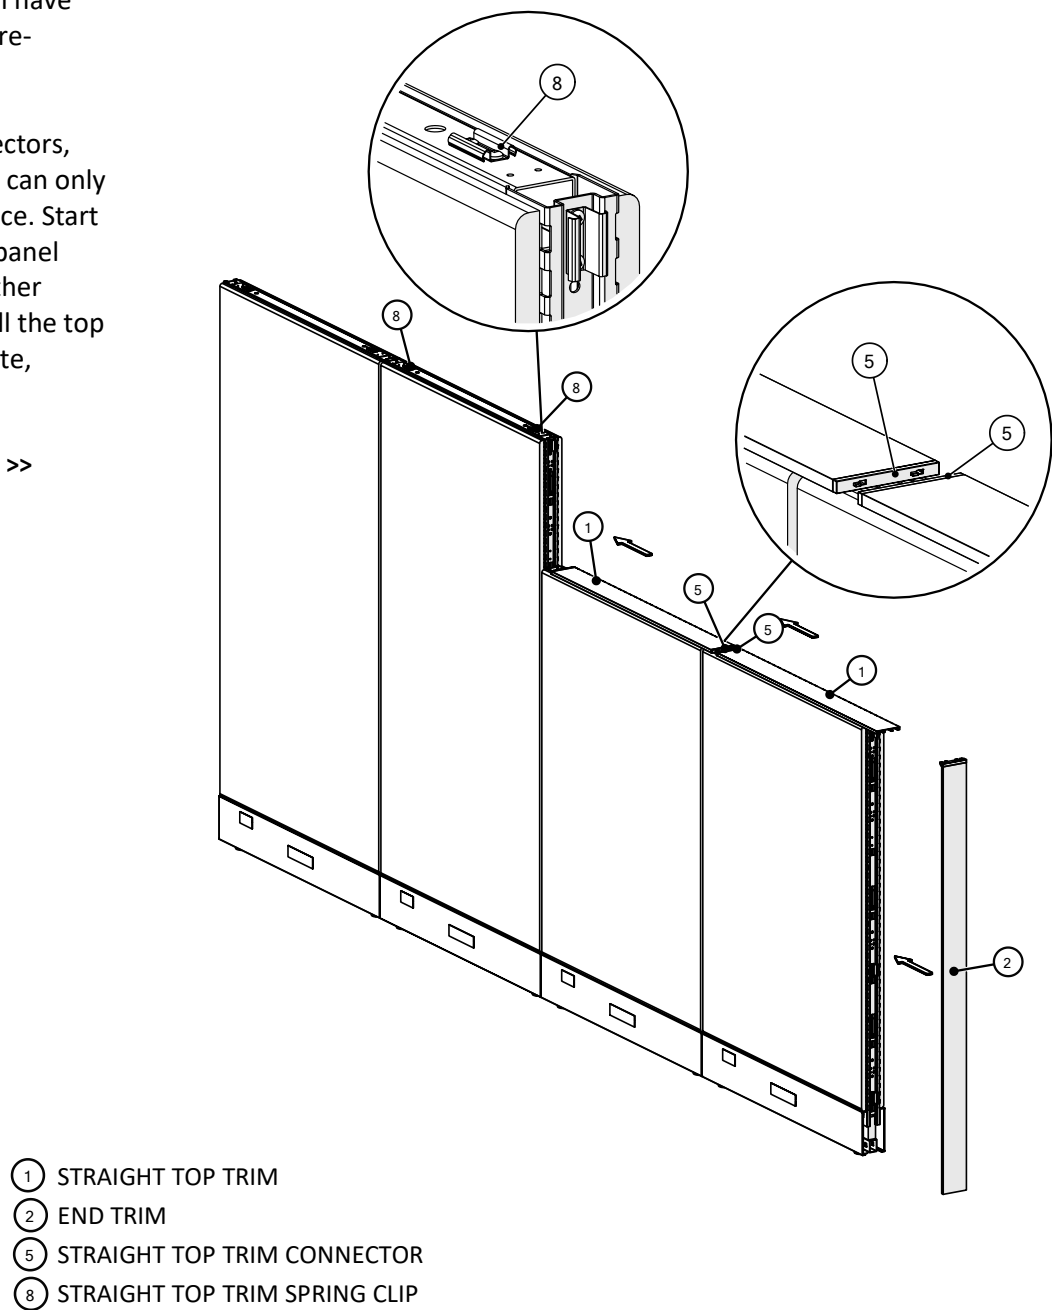

Figure 4
4. Due to the trim connectors, the top and end trims can only be installed in sequence. Start off at one end of the panel run, and end at the other panel run. Also, install the top caps where appropriate, (Figure 4).